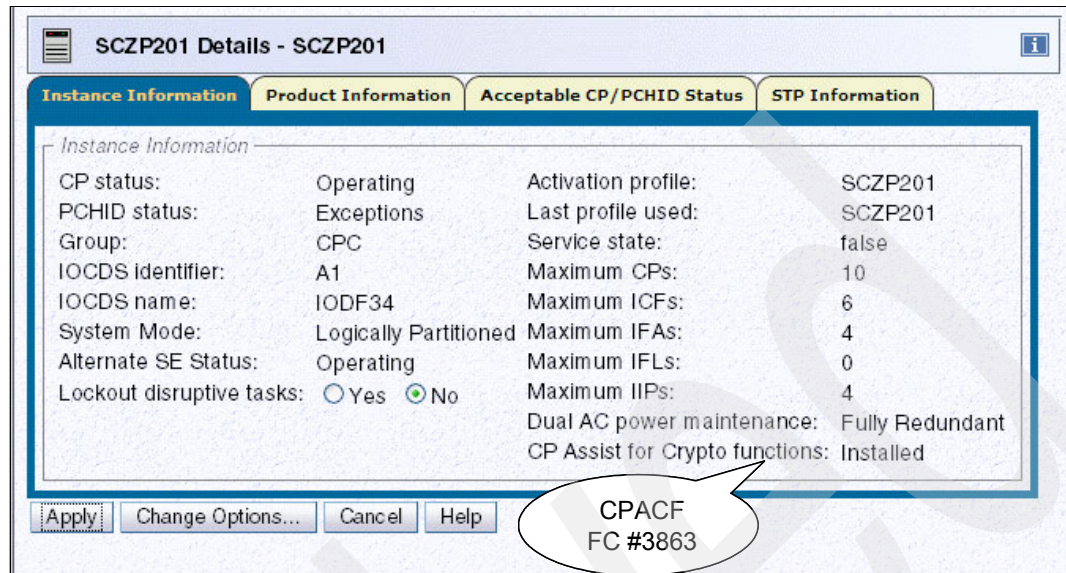

Figure 8-6 SE - CPC Details
3. Click the **CPC Details** menu at the top of the Tasks area. This opens the CPC details panel shown in (Figure 8-6).